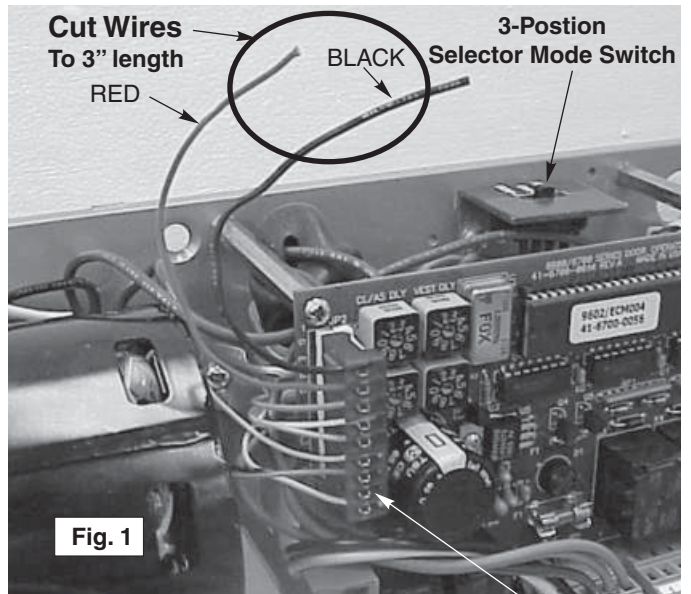

Fig. 1
2. If you will be replacing the ELS wiring harness during this ELS repair, the RED and BLACK wires leading from the ELS board to the 5-Pin connector on the Main board will need to be cut (BLACK JP2-G, RED JP2-E). Cut these wires approximately 3" from the Main board connector. See Fig.1
5. Remove Two (2) #8-32 phillips head screws and remove the old ELS board. **DO NOT DISCARD** #8-32 Screws.